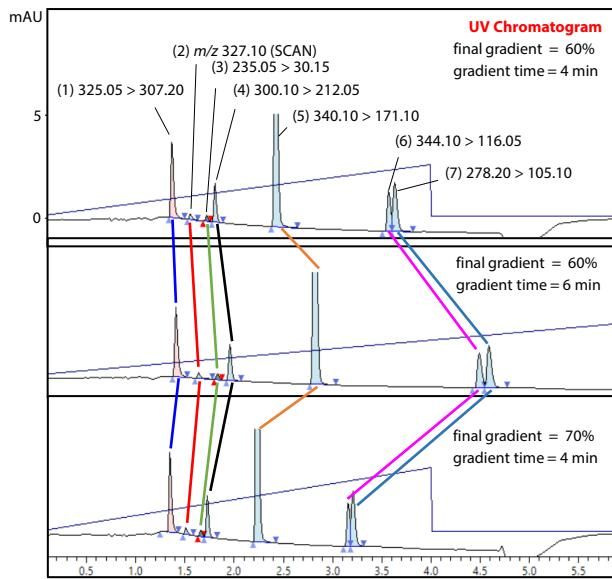
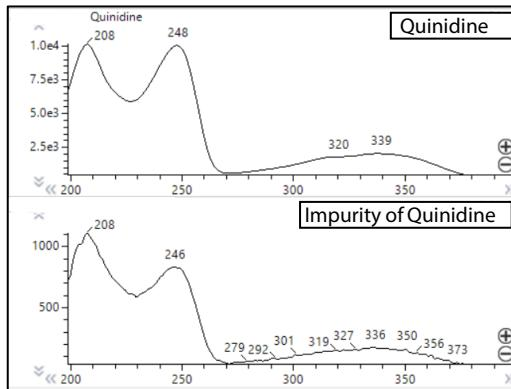
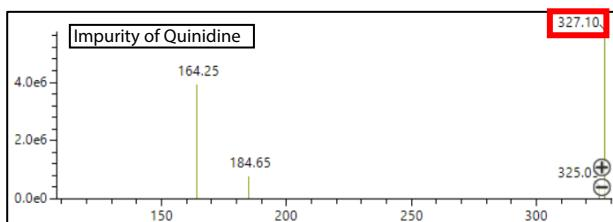
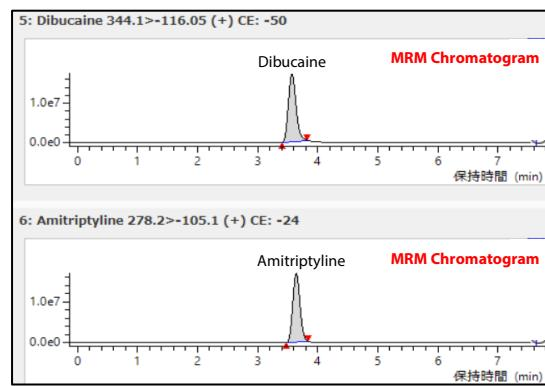

Fig. 1 MS-Based Peak Tracking
Fig. 2 Comparison of UV Spectra between Quinidine and Its Impurity
Fig. 3 MS Spectrum of Impurity of Quinidine by Scan Measurement
Fig. 4 MRM Chromatograms
Fig. 1 shows automatic peak tracking of each compound performed by LabSolutions MD, using chromatograms (partially shown) obtained under different gradient conditions and mass information acquired with LCMS-8060RX. LabSolutions MD enables accurate tracking of impurities and co-eluting compounds based on the pre-registered MRM transitions of each compound (Table 2). For compounds without predefined MRM transitions, peak tracking can also be performed by using mass information from scan measurements (full scan without fragmentation within a specified m/z range), allowing all compounds to be tracked based on mass information. As shown in Fig. 1, although the retention times and separation of compounds varied with changes in gradient time and final gradient concentration, all compounds were accurately tracked. Compound (2) in Fig. 1 is an impurity of quinidine. Because its UV spectrum showed a high similarity (≥ 0.99) to that of quinidine (Fig. 2), peak tracking using UV spectra alone was considered difficult. However, it was correctly identified using mass information (m/z 327.1; Fig. 3) obtained from scan measurements. In addition, dibucaine (Fig. 1, (6)) and amitriptyline (Fig. 1, (7)) were co-eluted, but accurate tracking was achieved even for these unresolved peaks by using product ion obtained from MRM measurements. The MRM chromatograms of dibucaine (Fig. 1, (6)) and amitriptyline (Fig. 1, (7)) are shown in Fig. 4 for reference.